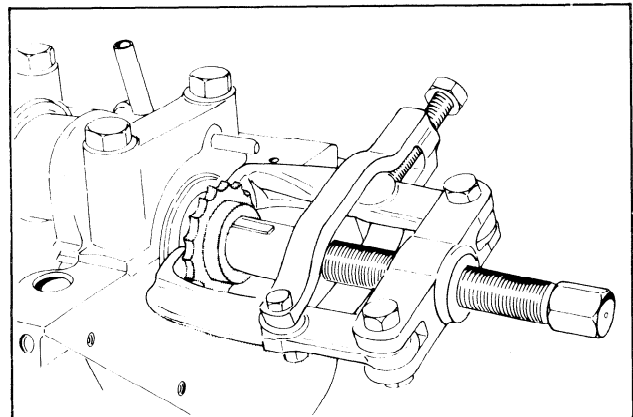

FIG. 32 Removing Crankshaft Sprocket
10. If crankshaft sprocket is to be removed, use a standard two-jaw puller (Figure 32).